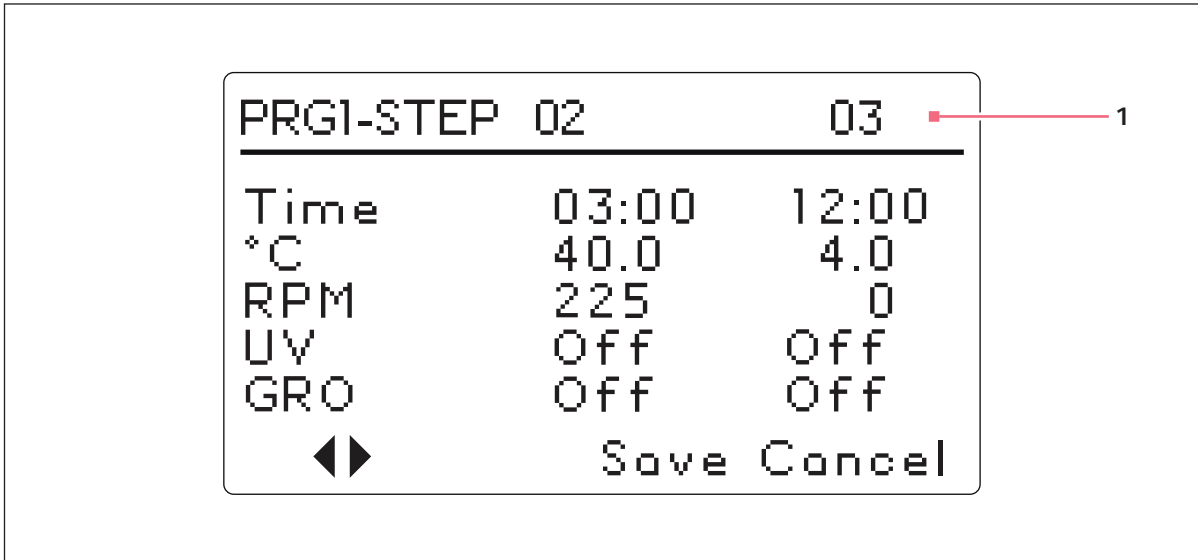

Fig. 5-14: Program 1, Step 3
10. Continue to program as many as 15 steps in the same manner. For our sample program, we have only three steps (see Fig. 5-14 on p. 55).